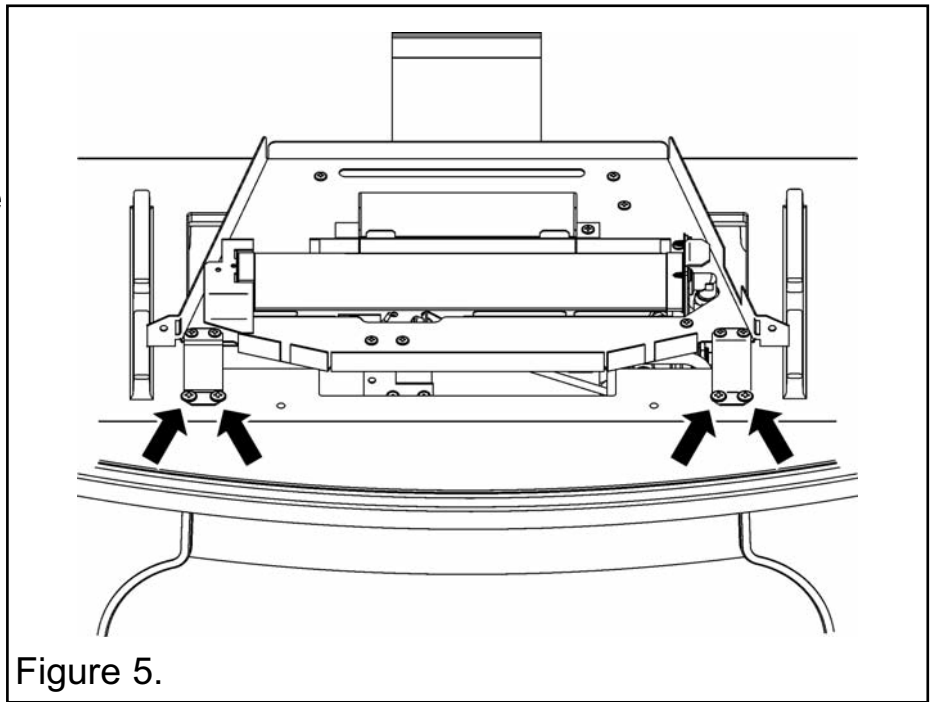

Figure 5.
- Locate the burner assembly inside the stove body as in figure 5 (The outer body of the stove is not shown for clarity). The rear leg of the burner should sit in the recess at the rear of the casting and on top of the two lugs that protrude. Secure using the screws supplied.